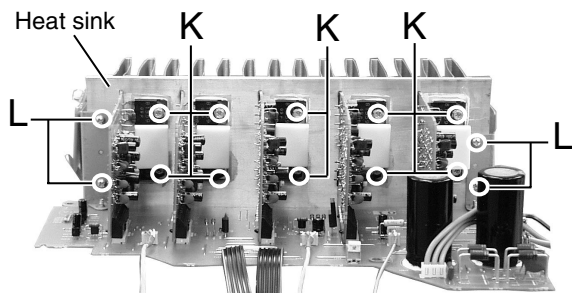

Fig.11
**■ Removing the Heat sink (See Fig.11 to 12)**